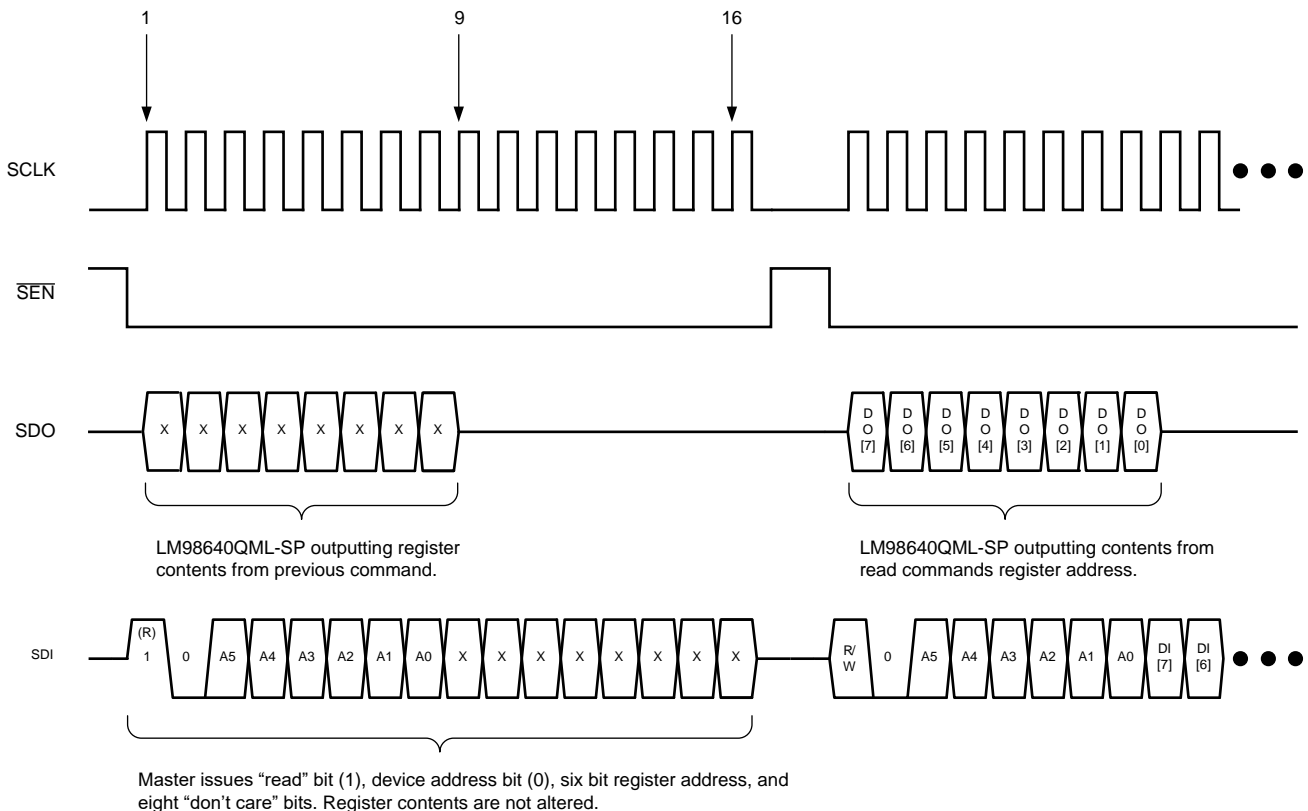
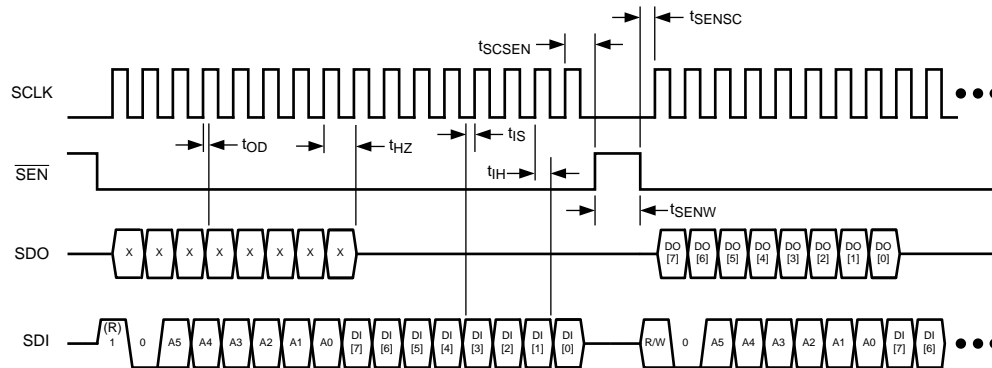

Figure 27. Four Wire Serial Read
Figure 28. Serial Interface Specification Diagram
To read to the serial registers using the four wire interface, the timing diagram shown in Figure 27 must be met. Reading the registers takes two cycles. To start the first cycle,  $\overline{\text{SEN}}$  is toggled low. At the rising edge of the first clock, the master should assume control of the SDI pin and begin issuing the read command. The read command is built of a "read" bit (1), device address bit (0), six bit register address, and eight "don't care" bits. SDI is clocked into the LM98640QML-SP at the rising edge of SCLK.  $\overline{\text{SEN}}$  is toggled high for a delay of at least  $t_{\text{SENW}}$  (see Figure 28). The second cycle begins when  $\overline{\text{SEN}}$  is toggled low. The LM98640QML-SP assumes control of the SDO pin during the first eight clocks of the cycle. During this period, data is clocked out of the device at the rising edge of SCLK. The eight bit value clocked out is the contents of the previously addressed register. The next command can be sent on the SDI pin simultaneously during this second cycle. When  $\overline{\text{SEN}}$  toggles high, the register is not written to, but its contents are staged to be outputted at the beginning of the next command.